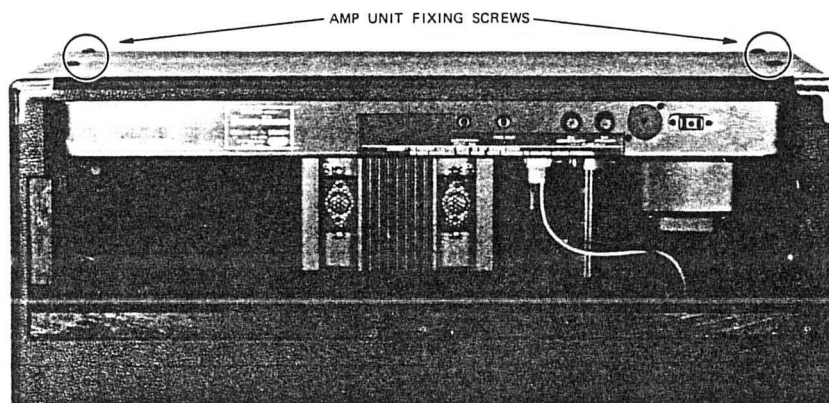

Figure 1
1. Remove the 4 screws securing the amp unit to the cabinet, as shown in Figure 1.